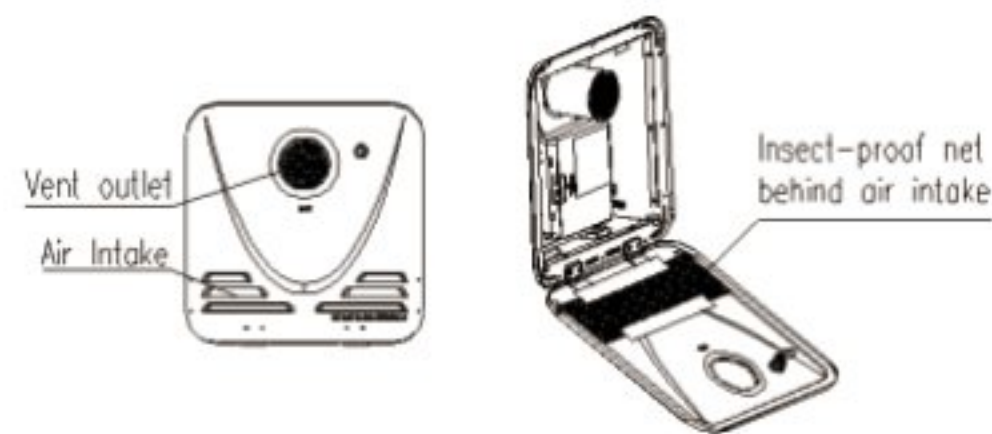

Figure 5
- a) Use a vacuum cleaner to clean the area around the water heater, vent outlet, air intake and insect-proof net behind the air intake to remove any dust, dirt and/or lint buildup, especially to ensure that they are free of any debris or blockages (leaves, insect nests, cobwebs, etc.) - refer to Figure 5.